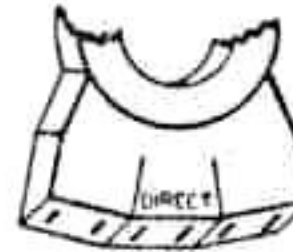

FIG. 1
(1) Plug line cord of appliance or apparatus to be measured into the "Direct" outlet of the Model 101. (Fig. 1).